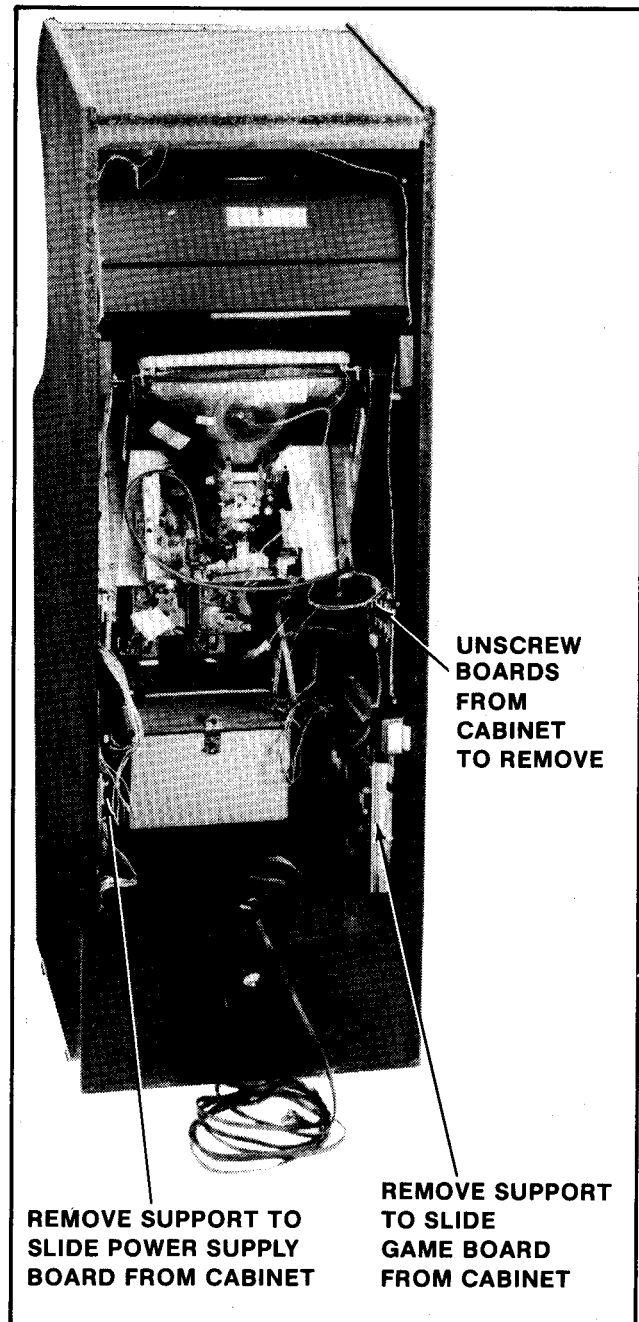

Figure 4-13 Removing P.C.B.s — Mini
2. MINI MODEL: See Figure 4-13.
- Disconnect the power supply board from its cabling, remove the P.C.B. supports indicated in Figure 4-13, and slide it out the back of the cabinet.